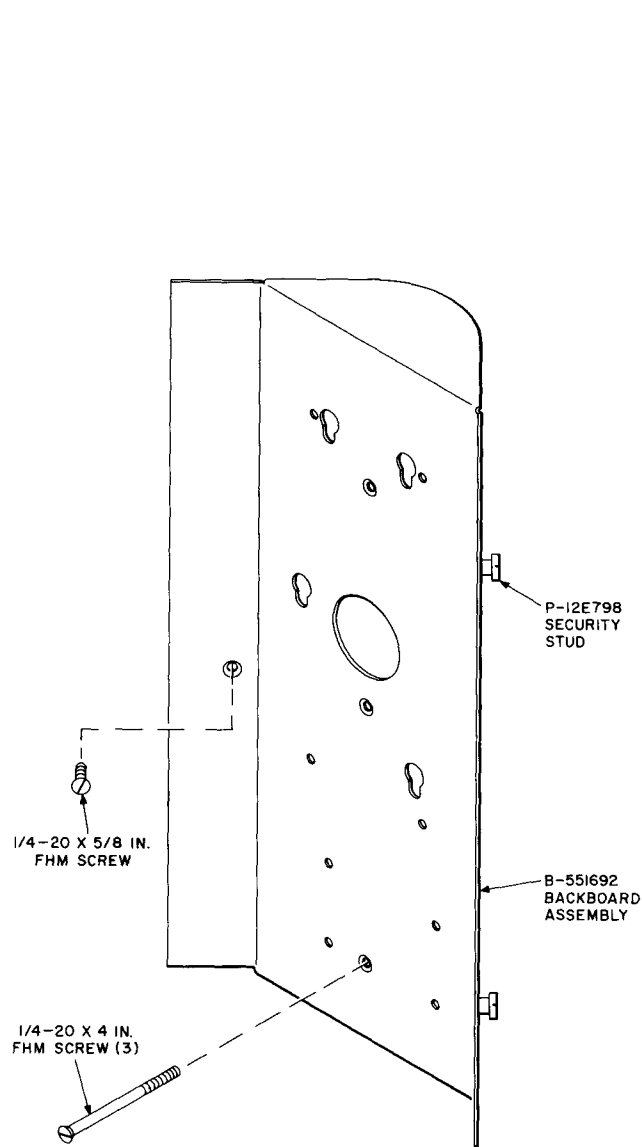

Fig. 3 — KS-19206, List 6 Coin Telephone Installation Kit or Backboard Portion of List 5 Kit
6.01 Install the backboard portion of the List 5 kit in accordance with Fig. 3.
6.05 Install KS-19206, List 6 kit in accordance with Fig. 3.